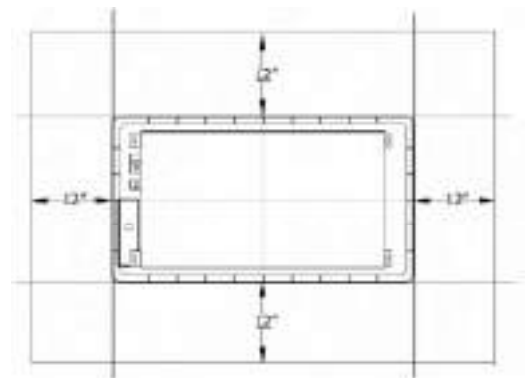

Figure 2
7. Ensure there is sufficient space around the unit to service it. The dimensions shown in Figure 2 are suggestions. Your application may require more space to access controls , control valves etc.